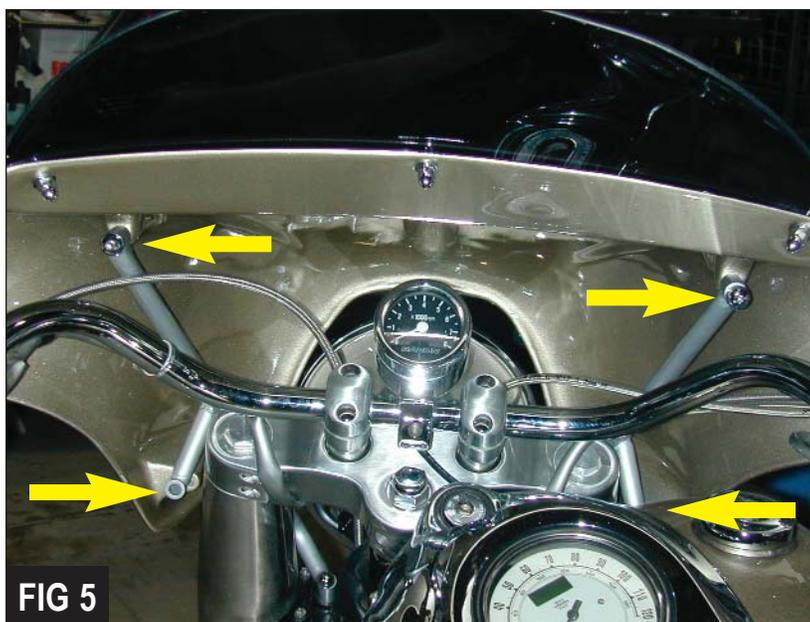

FIG 5
8. Secure the fairing to the bracket with a chrome m8 x 1.25 x 40 button head Allen bolt and flat washer at each of the four locations (Figure 5).